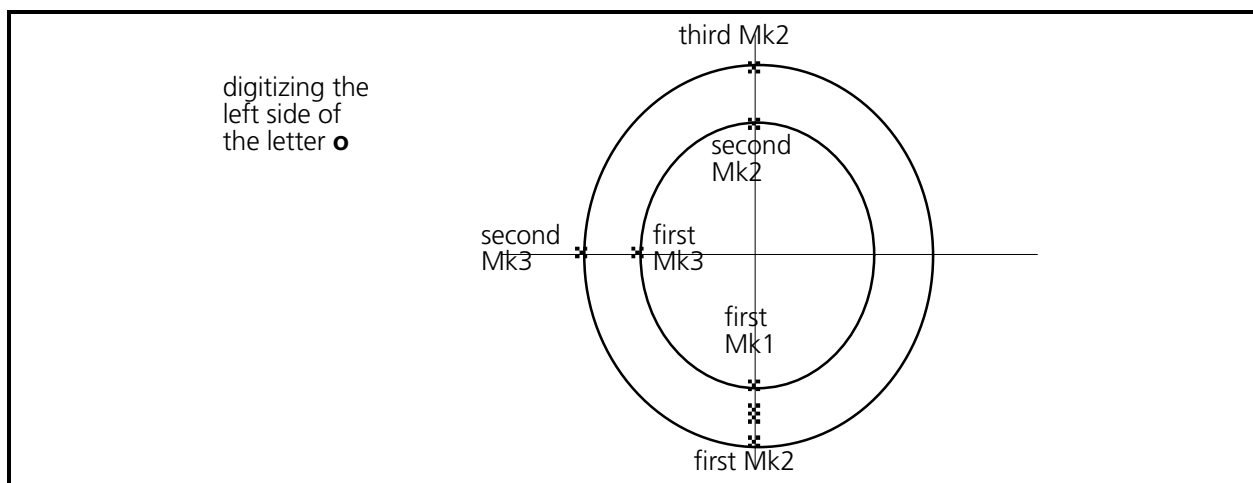

Figure 3-29
1. At the bottom middle of the inside circle of the letter **o** enter the first Mk1 (see Figure 3-29).
2. Now enter the first Mk2 directly below, at the bottom middle of the outside circle of the letter (see Figure 3-29).
3. Enter your first Mk3 (for defining the curvature of the inside line of the left arc) directly on the line of the inside circle exactly half way around to the top of the letter (see Figure 3-29).
4. Enter the second Mk3 (for defining the curvature of the outside line of the left arc) directly on the line of the outside circle exactly half way around to the top of the letter (see Figure 3-29).
5. Enter the second Mk2 to define the end of the inside of the column directly at top of the inside circle of the letter (see Figure 3-29).
6. Enter the third Mk2 to define the end of the outside of the column directly at the top of the outside circle of the letter (see Figure 3-29).